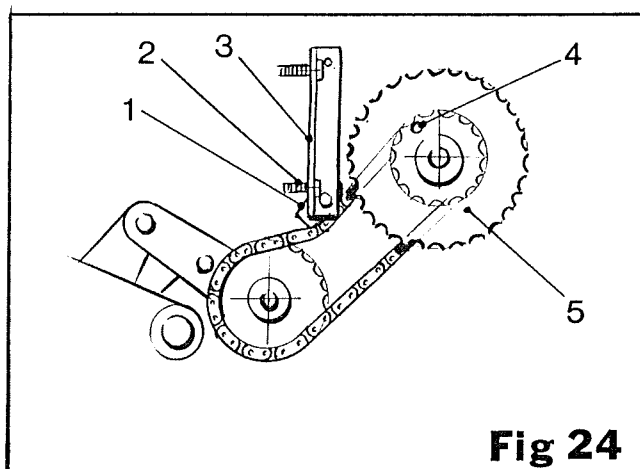

Fig 24
The drive for the separator unit is taken from the second web drive shaft. The chain is tensioned by a nylon tensioner (item 1, fig 24). To adjust the chain slacken the two retaining bolts (item 2, fig 24) and slide the mounting angle (item 3, fig 24) to gain the required tension. The separator unit is protected by a shear pin (item 4, fig 24). This shear pin transmits the drive between the two sprockets (item 5, fig 24). If a blockage occurs the pin breaks and stops the drive to the separator unit.